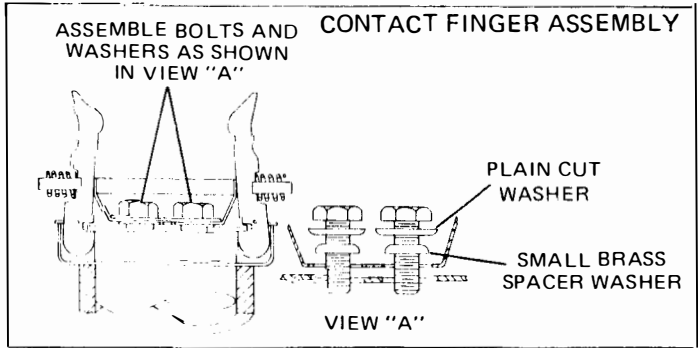

Fig. 2 - Typical Circuit Breaker Assemblies
11. Trip breaker by depressing trip rod, Fig. 2, Item 43.
14. Inspect the primary disconnect contact finger assemblies, Fig. 2 (3).